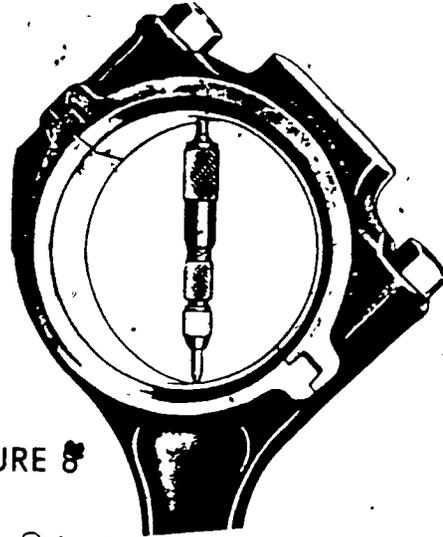

FIGURE 8
10. Measure inside diameter of crankpin opening in two places 180° apart (Figure 8)